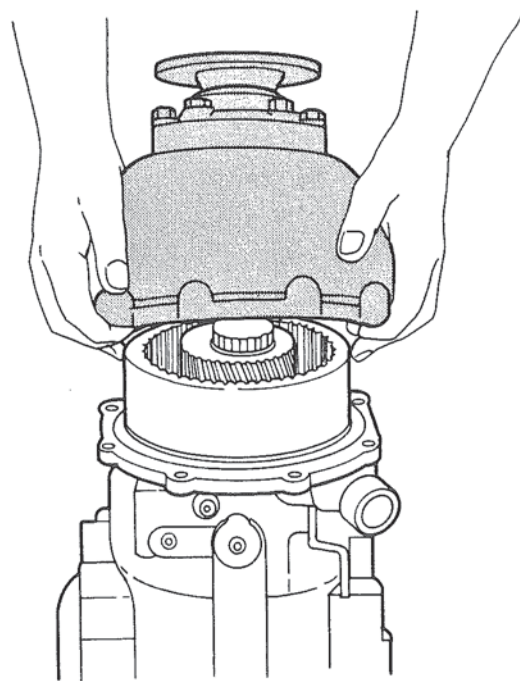

Figure 28. Installing Reduction Unit.
8. Support the forward and reversing unit on a clean, flat surface or block. Install the reduction housing adapter gasket-rear on the adapter. Figure 28. Coat one side of gasket with petroleum jelly to hold it in position during assembly.